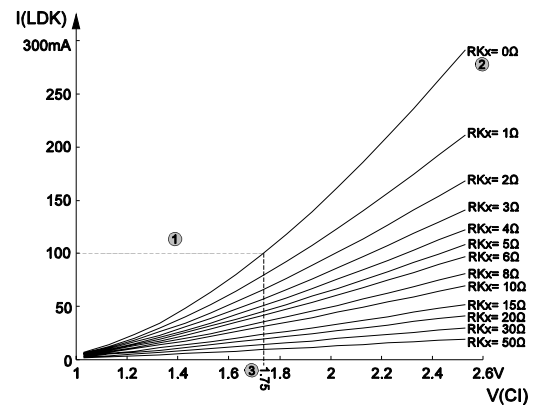
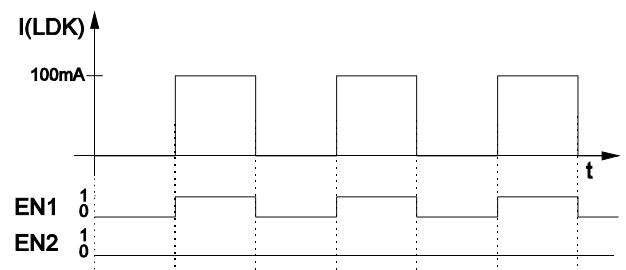

Fig. 1: Determining $V(CI)$ for Example 1 - pulse current of 100mA
Fig. 2: Signal patterns for Example 1 - pulse current of 100mA
3. As shown in Figure 1 (cf. data sheet, Figures 2..4), the required voltage $V(CI)$ for $RK = 0\Omega$ is read off at $I(LDK) = 100\text{mA}$ as $V(CI) = 1.75\text{V}$
Resistors RKx are not usually required. However for laser diodes operating on very low currents RKx might be necessary due to the lower voltage limit of iC-WK at pin CI. When dimensioning the resistors Figures 2..4 from the data sheet should be referred to as shown in Example 1. Furthermore, the use of resistors RKx can be useful when implementing protection against overcurrent (see page 8, 'Overcurrent shutdown/Laser current limitation').
The value for the other RKx and voltage $V(CI)$ can be determined using Figures 2..4 from the data sheet.